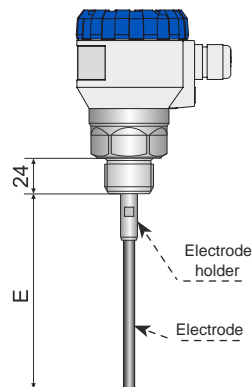

Fig. 14: Drawing of the level meter with dimension "E"
1. Make the custom electrode according to the drawing (see Fig. 14). The length of this electrode must be by 7 mm shorter than the dimension "E" in Fig. 30. Stainless steel of the 1.4404 (AISI 316 L) type or similar, depending on the application, is recommended as the measuring electrode material.